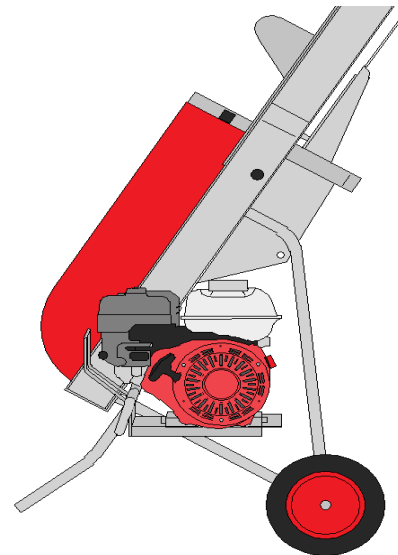

Fig.7.
8. Remove engine pin and position engine to rest into frame on pivot collar. Insert pin and lock anti-luce fastener. (Fig. 7.)